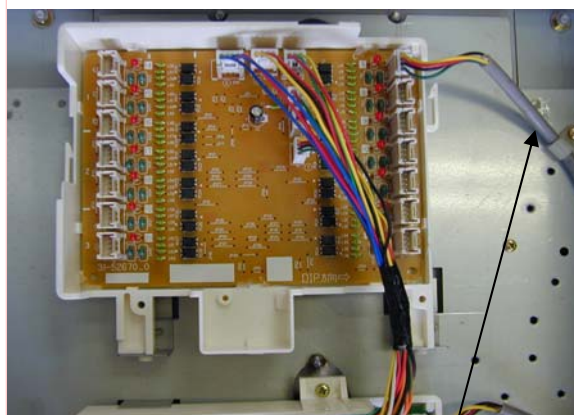

Figure 14
6. Connect the communication cable (MIC-K) from water heaters 7 through 20 to the connectors on the right or left side of the extended communication PCB (MICS-180) as shown in Figure 14.
7. Fix each communication cable with a clamp and one screw as shown in figure 14.
9. Connect the relay cable between main communication PCB and extended communication PCB as shown in figure 14.